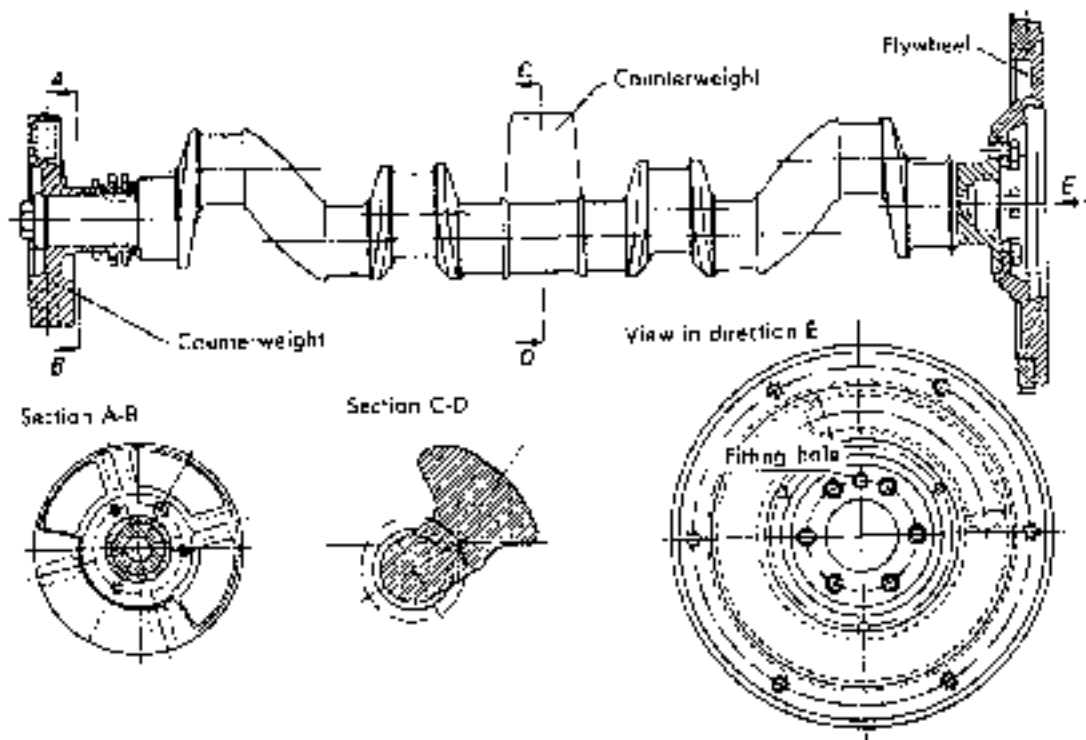

Fig. 03-5/10
1. Drill the balancing holes at the circumference on the front counterweight of the crankshaft in a radial direction using a 14 mm \varnothing drill (Fig. 03-5/10). The maximum bore depth is 30 mm.